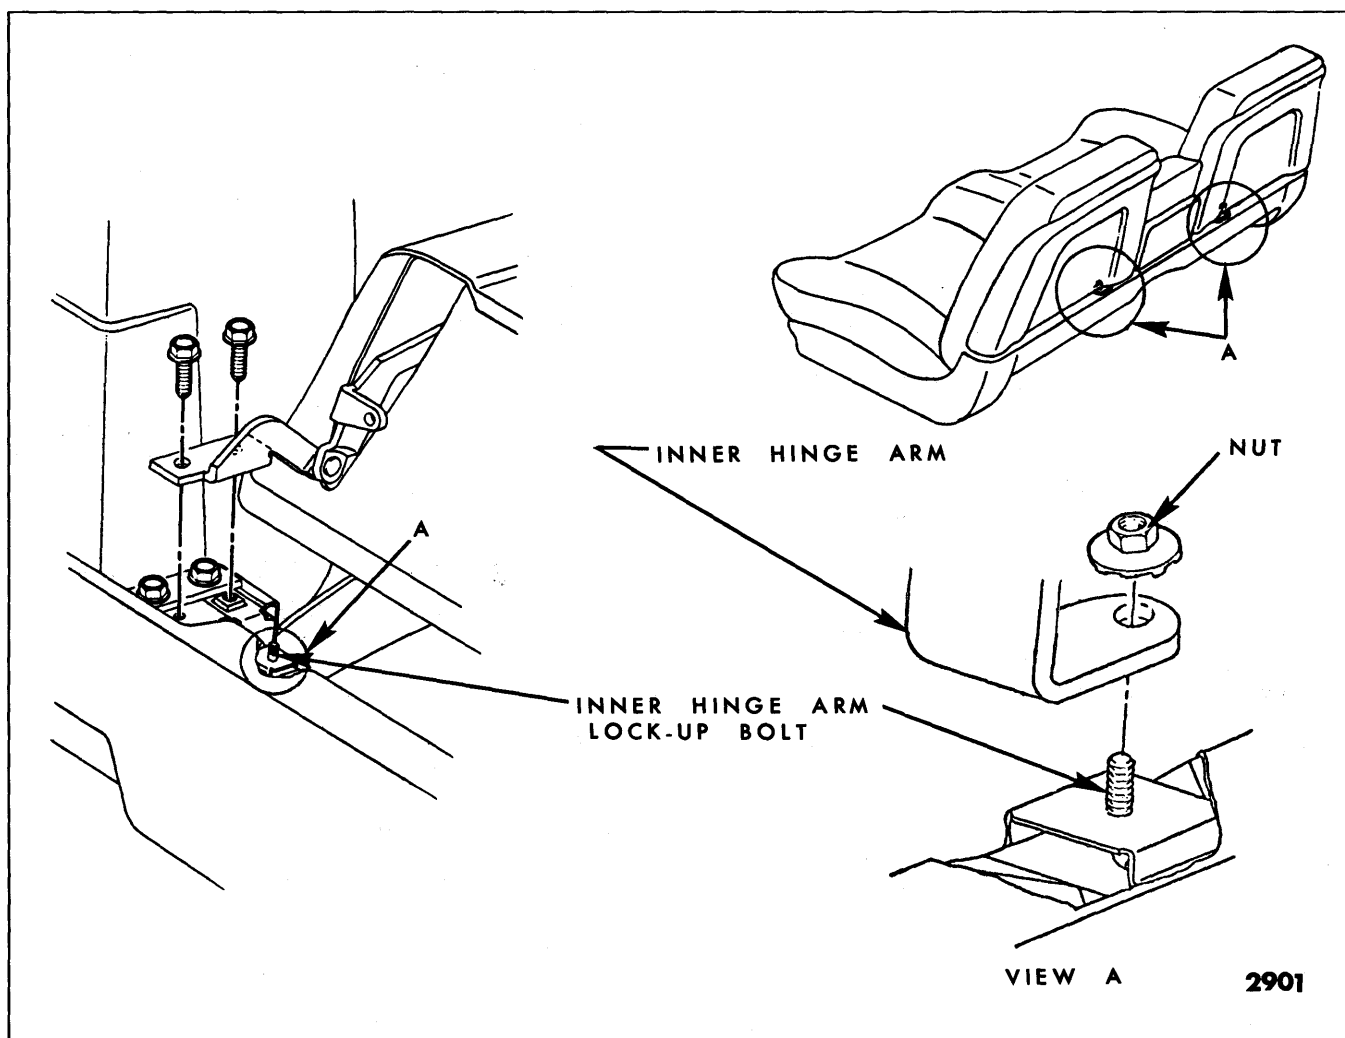

Fig. 15-34—Strato Front Seat Back Assembly (Right or Left) Full Width Seat - 16639 Styles
3. Using a suitable open end wrench between seat back and seat cushion, at location "A", remove nut locking seat back at inner hinge (See View "A", Fig. 15-34).
5. Carefully tilt seat back forward. Remove inner hinge bolt cover plate. Remove inner hinge bolts (Fig. 15-34) and carefully remove seat back from seat assembly.